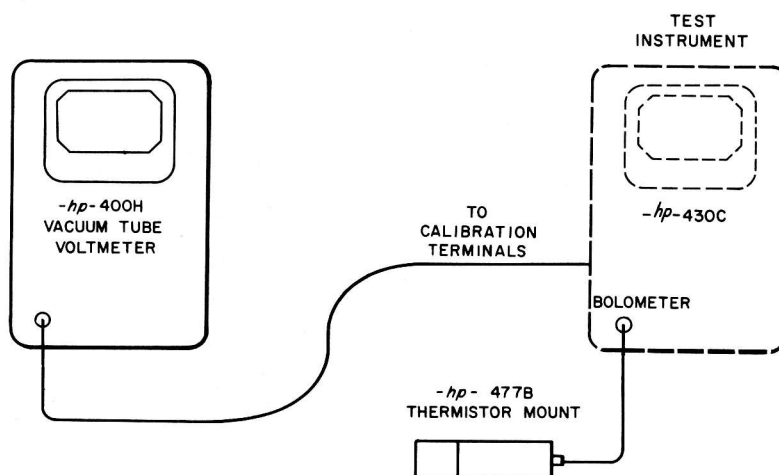

Figure 9-2. 430C Power Meter Calibration.
- 2) Connect the equipment as shown in Figure 9-2.